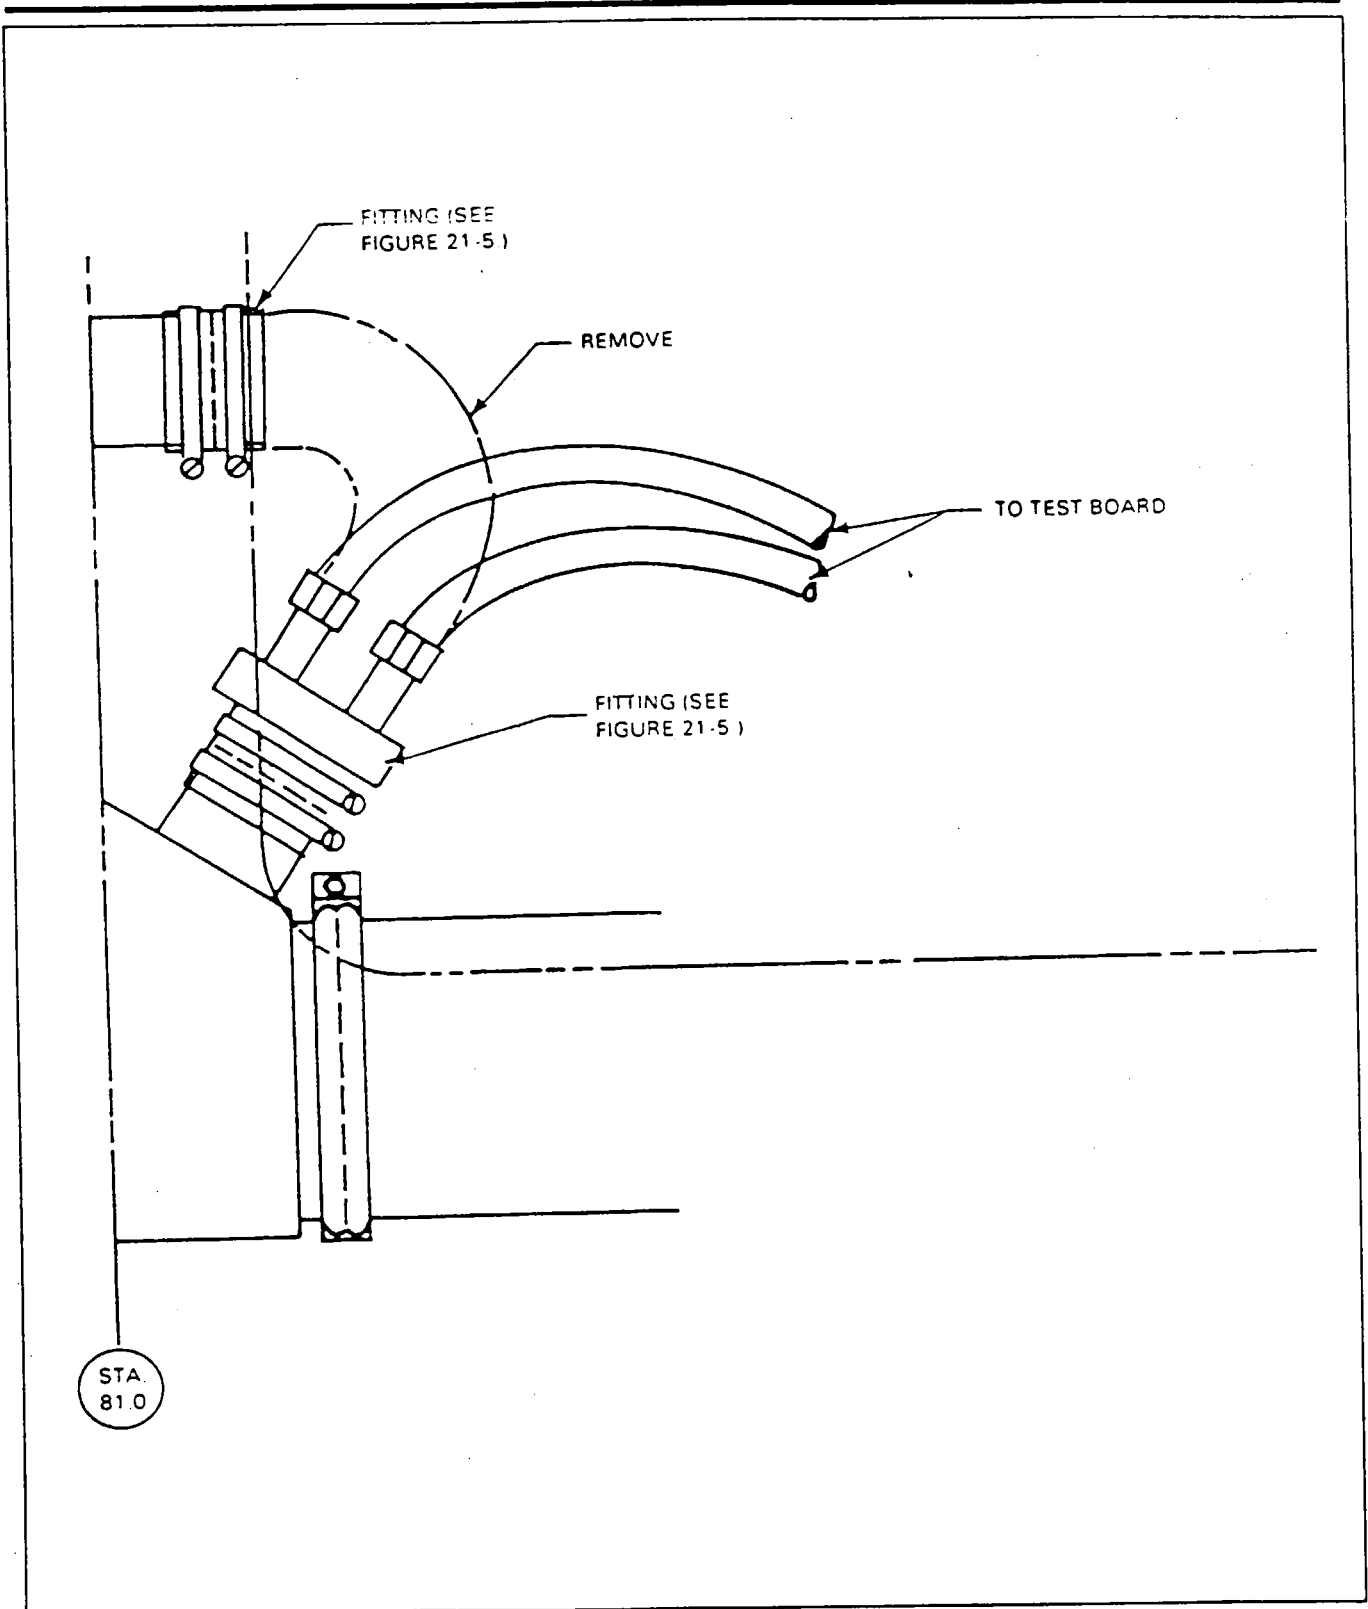

Figure 21-7. Pressurization Test Hookup
2. Test Unit Hookup: (Refer to Figure 21-7.)
- A. Connect the test unit to the aircraft as shown in Figure 21-7.